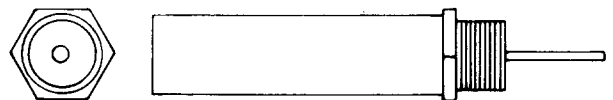

Fig. 31—624A Jack
2.23 624A: This coaxial-type jack (Fig. 31) is designed to mate with the 440A and similar-type plugs. This jack has solder wire terminals and is used with the 285E switches.